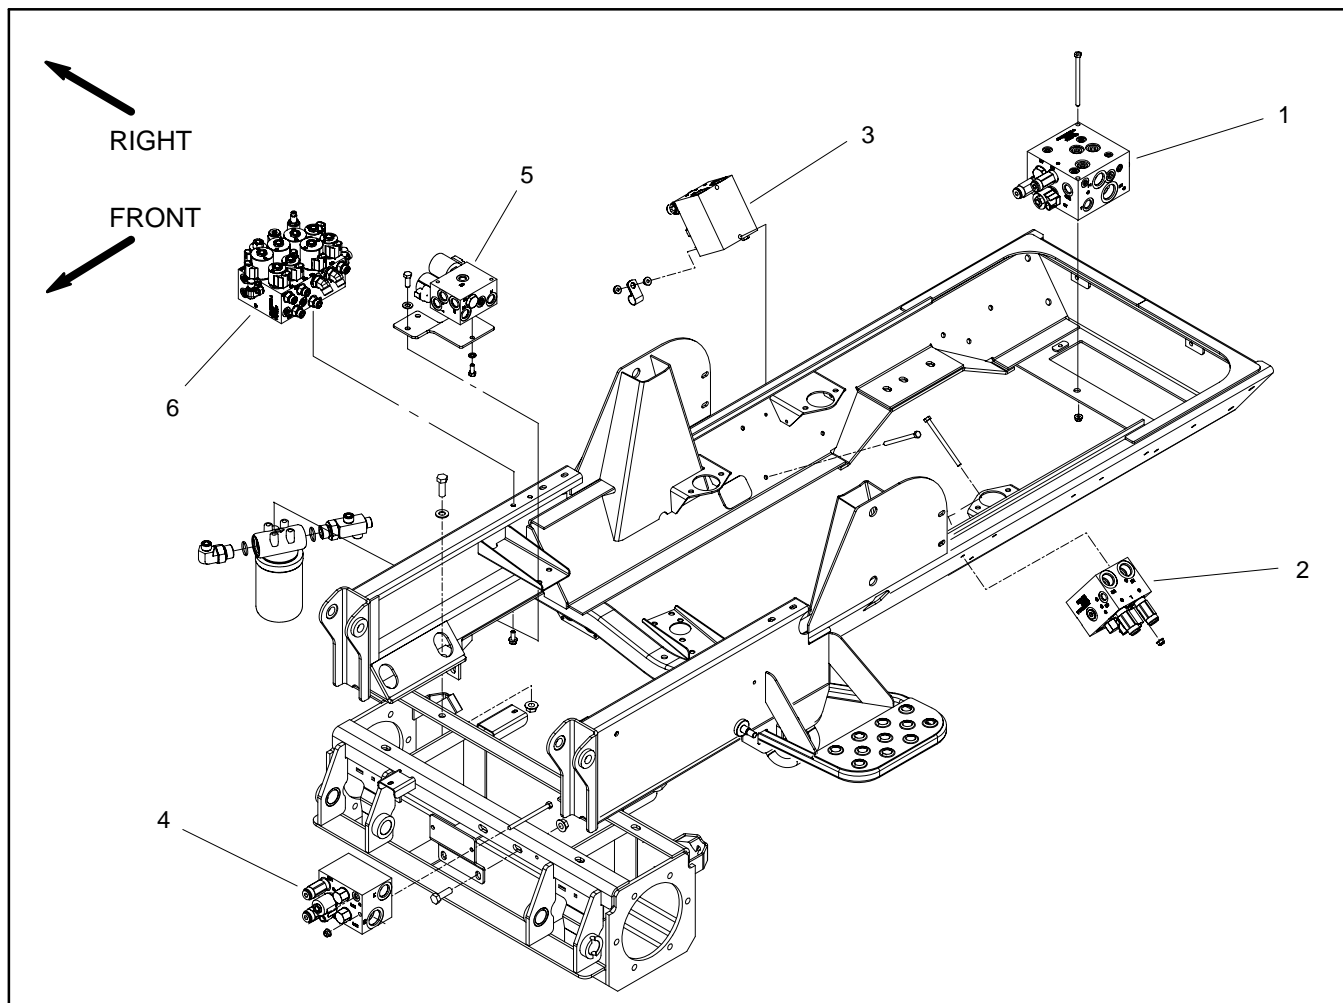

Figure 38
2. Locate hydraulic valve solenoid coil to be tested (Fig. 38). Disconnect wire harness connector from coil.